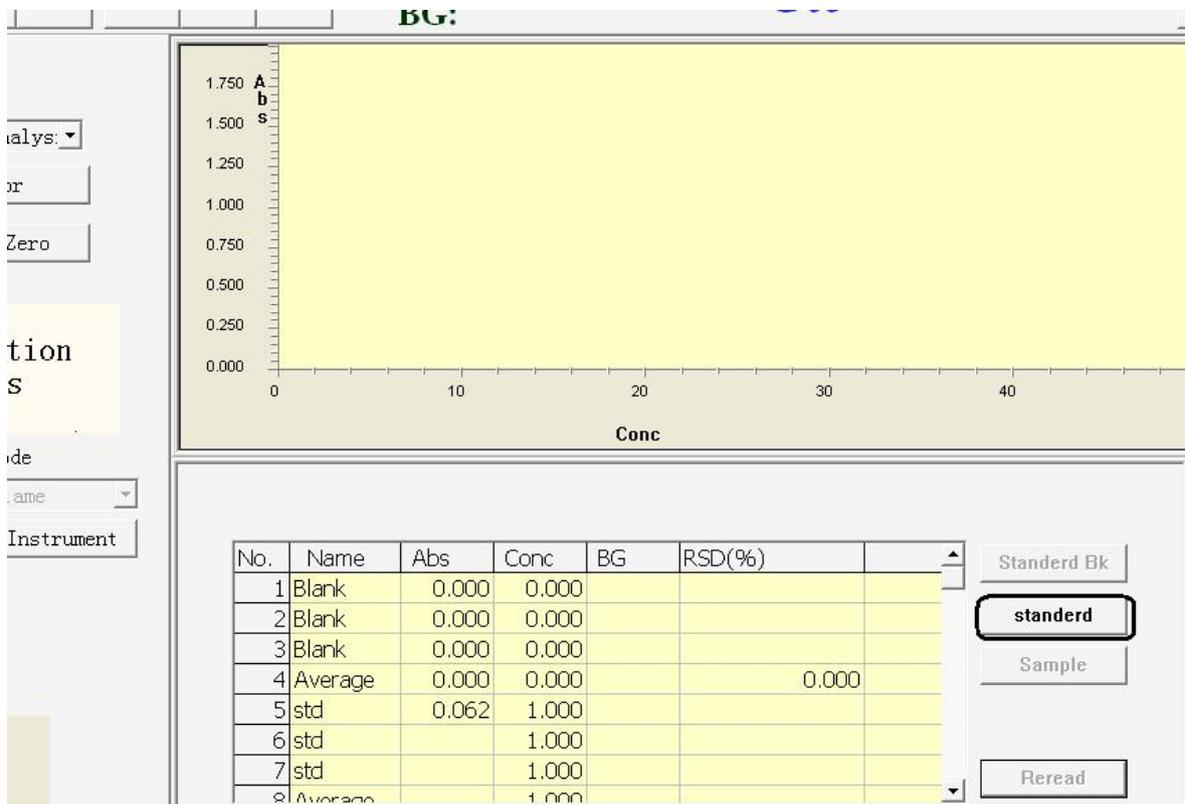

Figure 5-13
10. Spurt and absorb standard asmples 1, press **【Standard】** button, shown in Figure 5-13